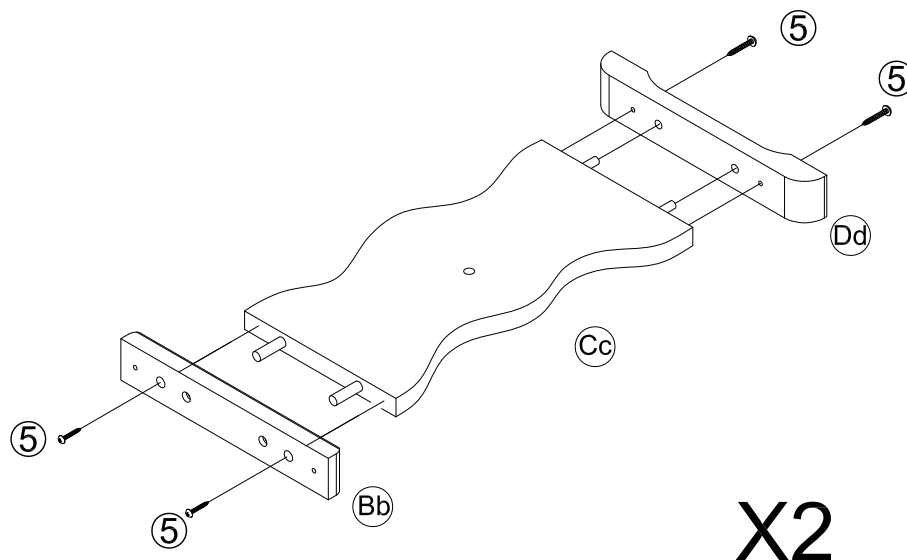

FIGURE 2
- 2.1 ATTACH SEAT BASE #Dd TO LEG #Cc THROUGH FITTING DOWELS LOCATED AT LOWER END OF LEG #Cc INTO HOLES LOCATED ON UPPER EDGE OF BASE #Dd USING PRE-DRILLED HOLES AS GUIDE, SECURE CONNECTION WITH (02) SCREWS ⑤. DRIVEN WITH PHILLIPS HEAD SCREW DRIVER (NOT ATTACHED) AS SHOWN IN FIGURE 2. REPEAT PROCEDURE FOR SECOND LEG #Cc.
- 2.2 ATTACH SEAT SUPPORT #Bb TO LEG #Cc FITTING THE DOWELS LOCATED ON UPPER END OF LEG #Cc INTO HOLES LOCATED ON SUPPORT #Bb. USING PRE-DRILLED HOLES AS GUIDE, SECURE CONNECTION WITH (02) SCREWS ⑤ DRIVEN WITH PHILLIPS HEAD SCREW DRIVER (NOT ATTACHED). AS SHOWN IN FIGURE 2. REPEAT PROCEDURE FOR SECOND TOP SUPPORT #Bb.